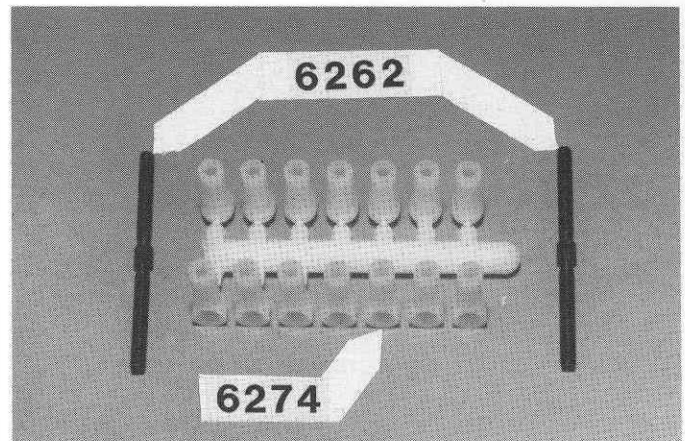

Fig. 16
□ **Fig. 16** From bag #6-1 take out the two #6262 threaded turnbuckles, and from bag #6-14 take out the #6274 plastic ball cups, as shown. Twist the ball cups and take four of them off. **NOTE:** #6259 is a complete set of replacement turnbuckles and plastic cups for the car.